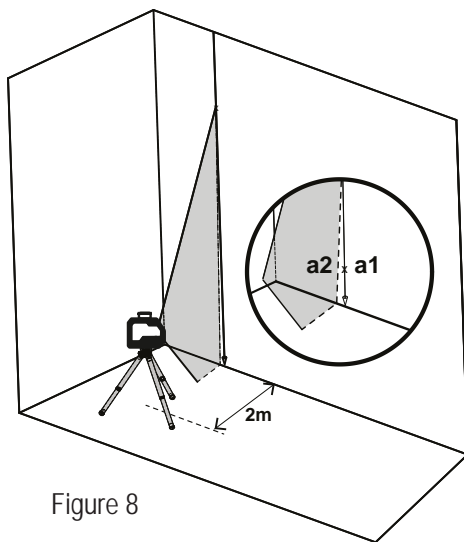

Figure 8
6. Mark point **a2** on the wall, in the middle of the vertical beam at the same height as **a1**. (see figure 8).